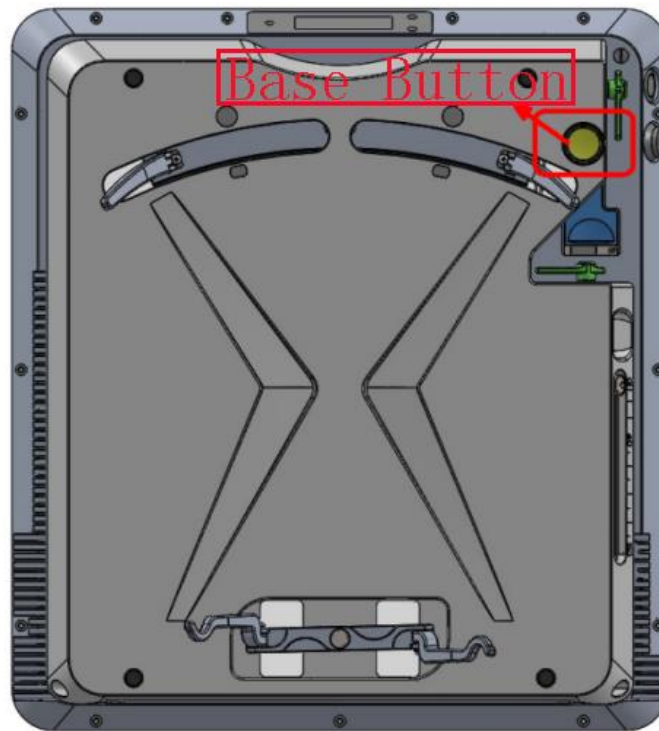

Figure 8-2-7 Base Button
7. Base button: After the Terminal panel is tightly connected with the base, gently press the button at the bottom of the base, and there will be a "click" sound, indicating that the Terminal panel and the base are tightly fastened. As shown in Figure 8-2-7.